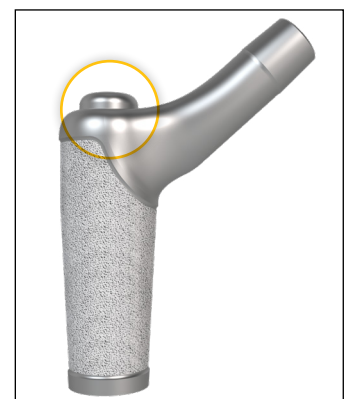

Figure 27
**IMPORTANT: A visual check should be made to make sure the proximal body is fully seated on the distal stem prior to tightening the locking bolt. For Cone Body sizes 21mm - 31mm, when the body and stem tapers are fully engaged, the entire head of the locking bolt will be seen 1mm - 2mm above the shoulder of the Cone Body (**Figure 26**). For the 19mm Cone Body, when the body and stem tapers are fully engaged, the underside of the locking bolt head will be about 1mm below the shoulder of the Cone Body (**Figure 27**).**